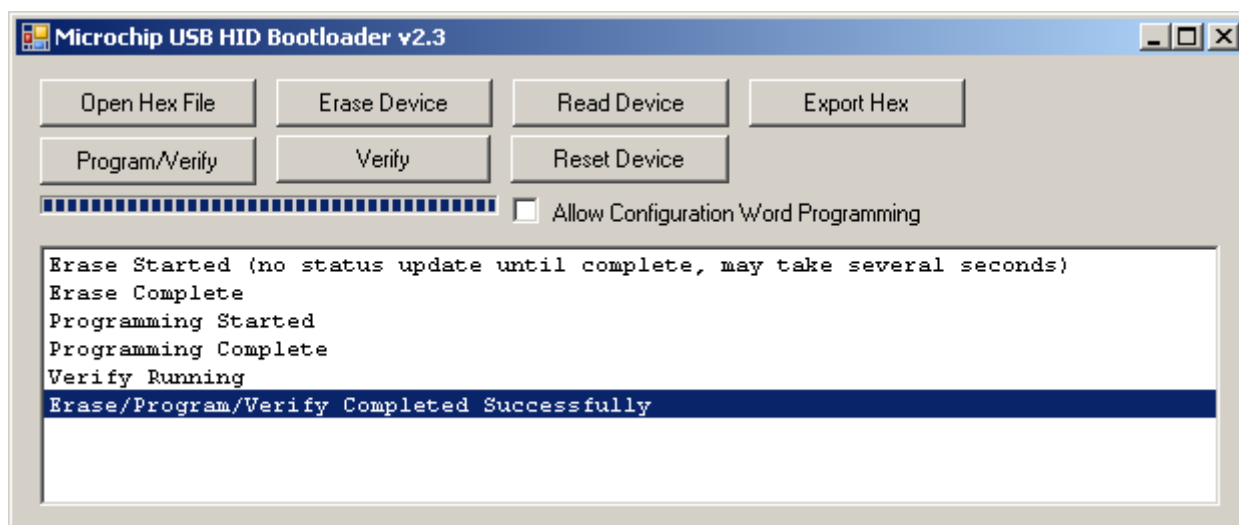

Figure 3. Programming successful
- vii) The Microchip software displays “Erase/Program/Verify Completed Successfully” as in Figure 3 when the operation is finished